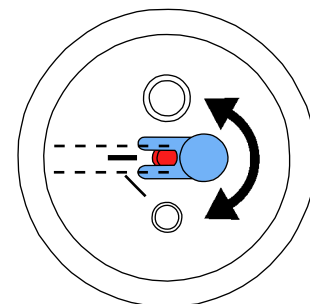

Fig. 13
- The dosing nozzle must be adjusted with blasting tanks of 25 - 70 µm (Fig. 13)!